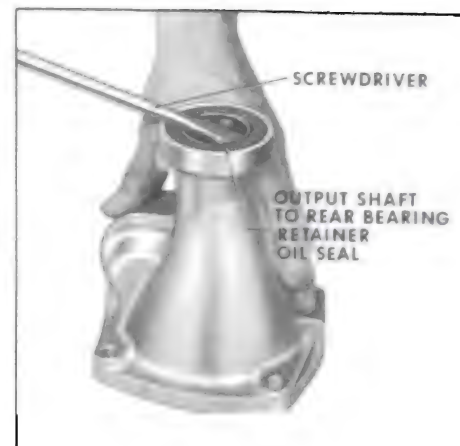

Figure 5-137
1. Inspect and if necessary remove output shaft to rear bearing retainer oil seal. See Figure 5-137.